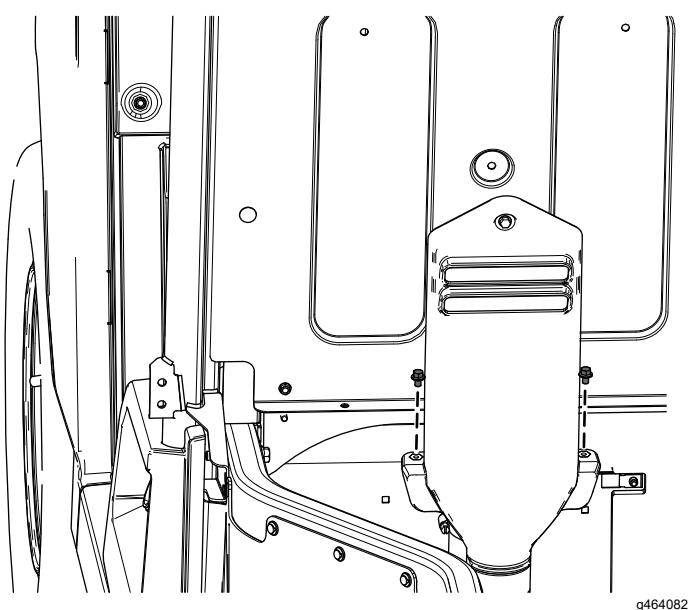

Figure 61
- Remove the 2 flange-head bolts (1/4 x 3/8 inch) from the CVT-intake hood (Figure 61).